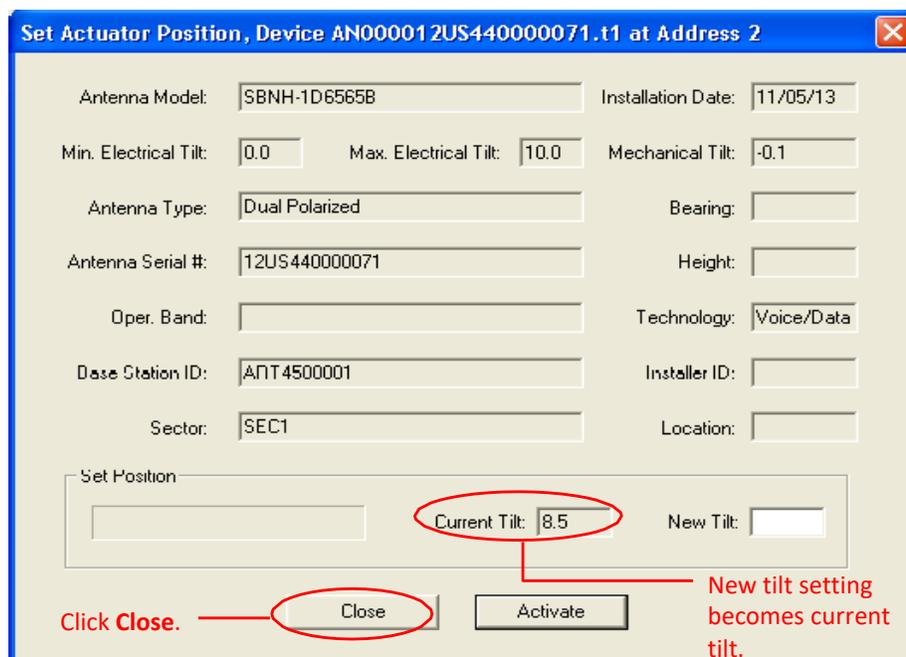

Figure 7-8. New Electrical Tilt Displays in Current Tilt Field.
8. At the successful completion of an antenna movement, the Current Tilt field will update to show the new tilt angle and the New Tilt text entry box will be cleared in preparation for the next move (Figure 7-8). At this point, you may click on the Close button to exit this screen and return to the main screen. Alternately, this process may be repeated to further adjust the downtilt or to reapply changes where movement had previously failed, such as a temporary mechanical jam.